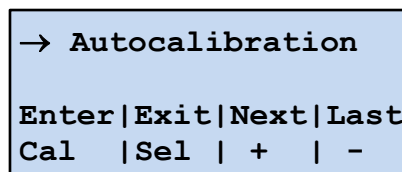

Figure 59. Autocalibration screen.
6. Press the  button for accepting the values and returning to the **Auticalibration** screen (see Figure 59).